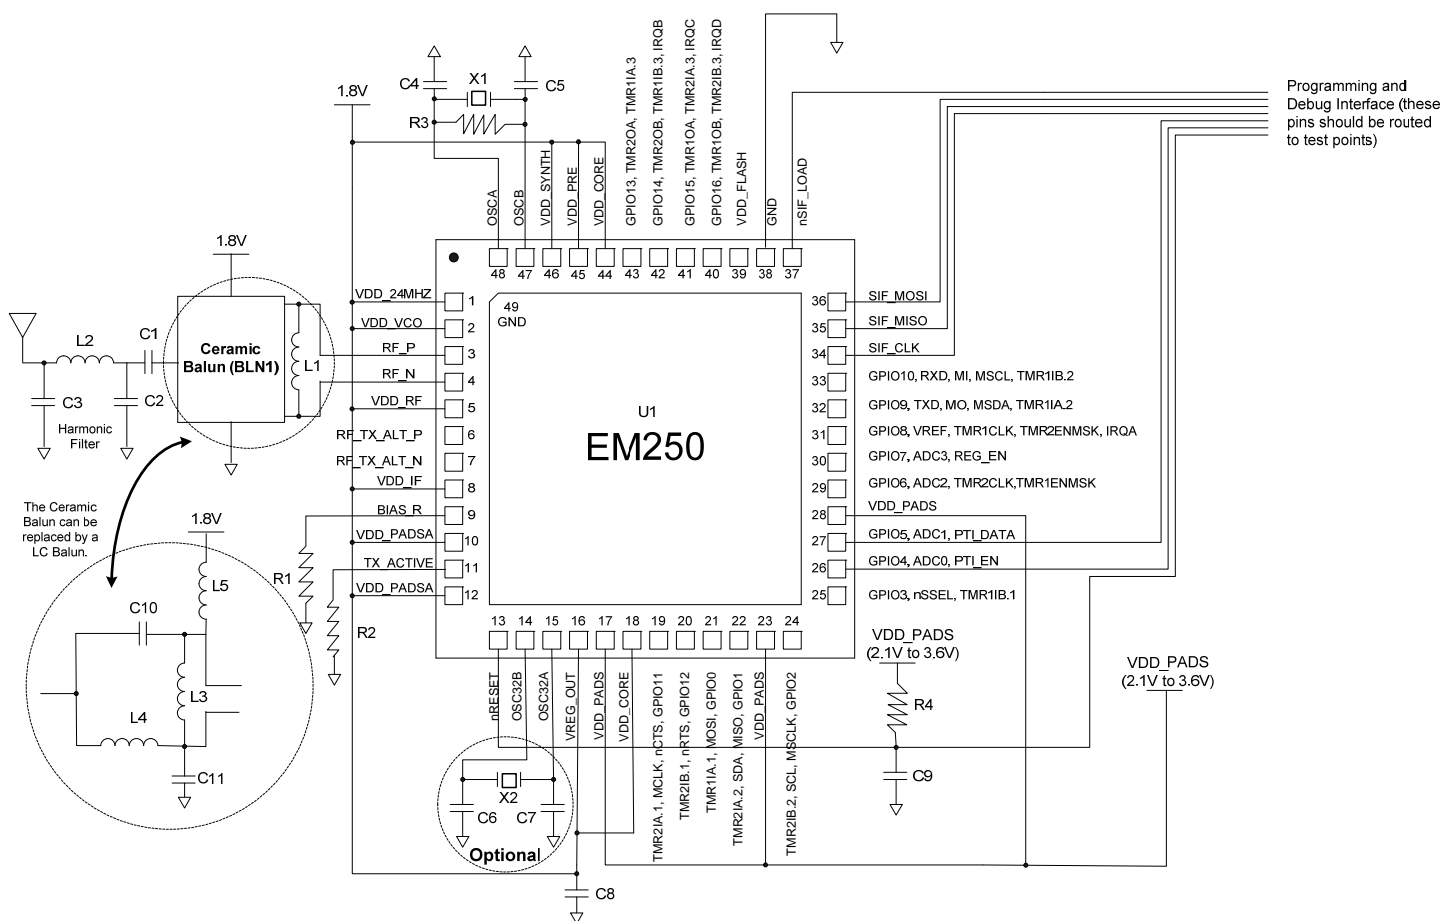

Figure 16. Typical Application Circuit
Figure 16 illustrates the typical application circuit, and Table 39 contains an example Bill of Materials for the off-chip components required by the EM250.
**Note:** The circuit shown in Figure 16 is for illustrations purposes only as it does not contain the decoupling capacitors for the different VDD nets. For a complete reference design, please download one of the Silicon Labs Reference Designs from the Silicon Labs website ([www.silabs.com/zigbee](http://www.silabs.com/zigbee)).
Table 39 contains a typical Bill of Materials for both the Ceramic and Lattice Balun Application circuits shown in Figure 16. The information within this table should be used for a rough cost analysis. It does not contain the decoupling capacitors. For a more detailed BOM, please refer to one of the Silicon Labs EM250-based reference designs.
**Table 39. Bill of Materials for Figure 16**